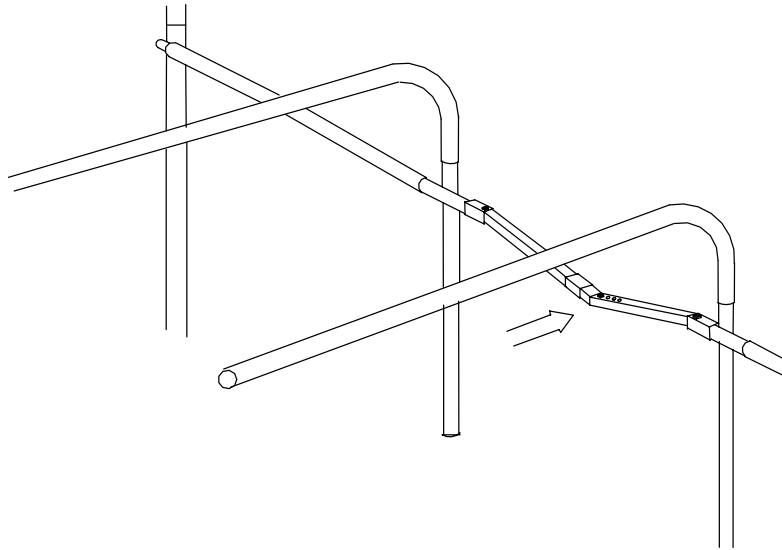

Figure 10. Adjustable Spacer.
12. Install the adjustable spacer, as shown in Figure 10, in the remaining location. Slide the adjustable spacer between the stubs of the verticals. To obtain the correct tension, adjust the length by moving the bolt to the desired location. Orient the spacer so that it will tighten by pushing outward. Two personnel may be needed to straighten the spacer.